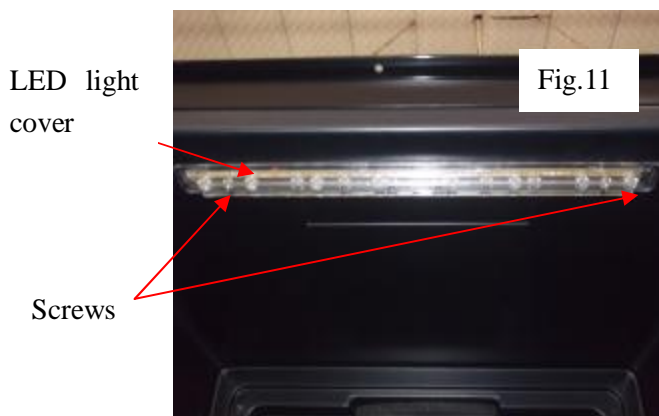

Fig.11
- (2) Remove the screws fixing the LED light cover and disconnect the connector, remove the light. (Fig.11)